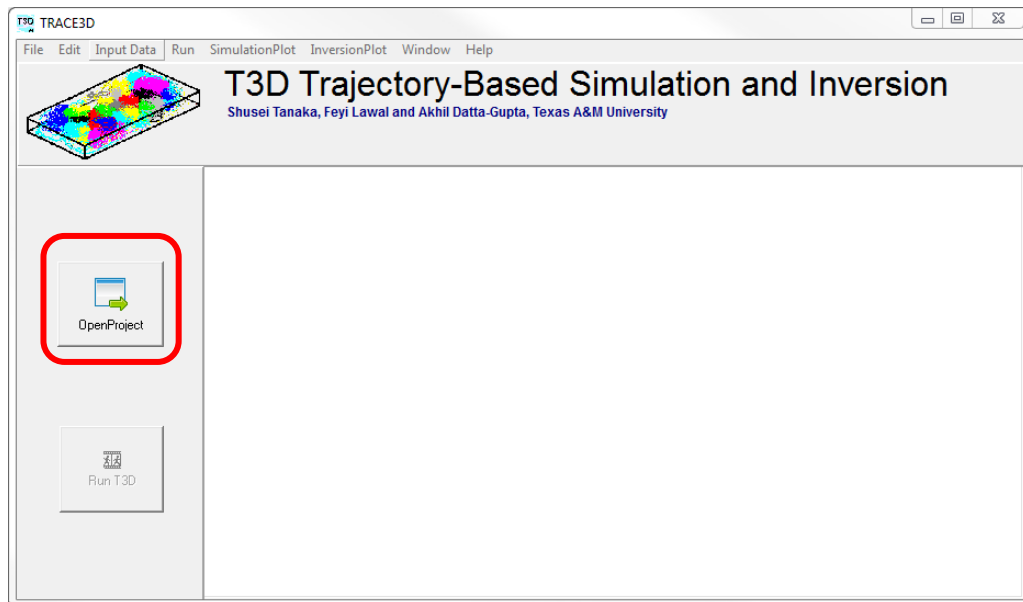

Figure 1: Starting Screen
2. Once the program starts, the main screen appears as below (**Figure 1**)
3. To create a new project, Click File → New Project or click on the 'OpenProject' button as shown in Figure 1. Supply the Project name on the appearing dialog box. An automatic extension of TRACE3D will be associated with the project name. Choose a proper location for the project anywhere in the computer using the Browse button. If required (recommended), create a new folder for the new project. Before executing the program, all relevant data files **MUST** be in this folder.